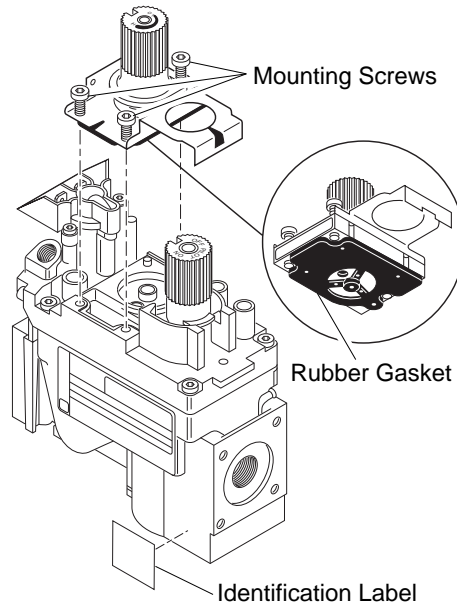

Figure 7 - Installing Pressure Regulator Assembly
- Insure that the rubber gasket is properly positioned on the new pressure regulator assembly. Install the new pressure regulator assembly to the valve using the new mounting screws supplied with the kit. Tighten screws securely (approximately 25in.-lbs.) (see Figure 7).
- Install the identification label enclosed with the gas valve regulator to the valve body where it can easily be seen (see Figure 7).